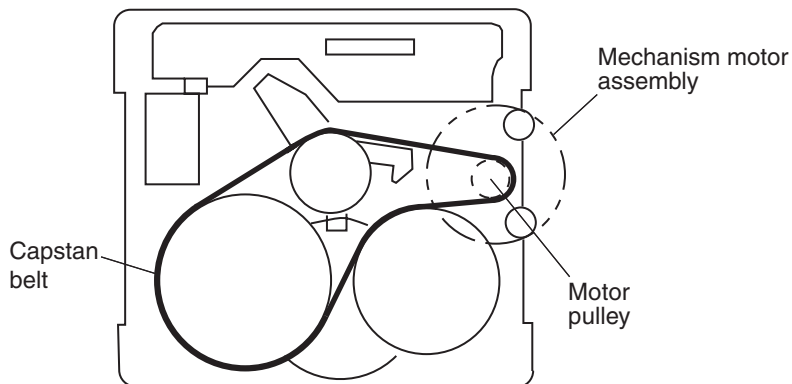

Fig. 5
**CAUTION:** Be sure to handle the capstan belt so carefully that this belt will not be stained by grease and other foreign matter. Moreover, this belt should be hung while referring to the capstan belt hanging method in Fig. 5 and 6.